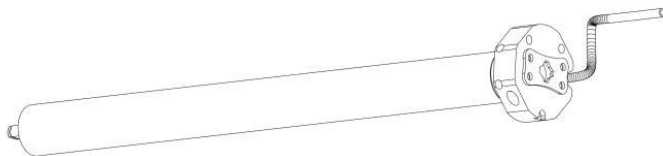

Figure C29
3.13.1 The B2EC electric awning uses a built-in tubular motor(Figure C29) with a working voltage of 12V, a working current of 8A, a speed of 9r/min, and a power of 95W. It is equipped with a line control switch, a spare crank, and supports manual operation in case of power failure.